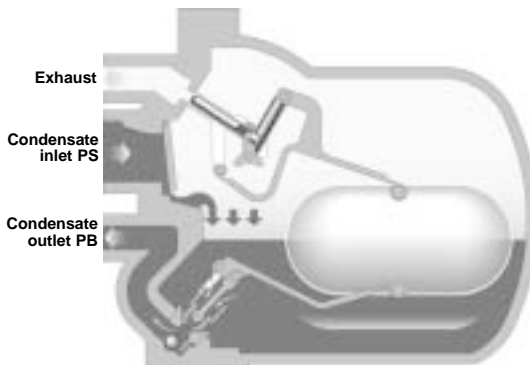

Fig. 4
Step 1 (Fig. 4)
The APT14 automatic pump trap operates on a positive displacement principle. Condensate enters the body through the inlet swing check valve causing the float to rise. The float is connected to the trap mechanism via a multi-link pivot. If the upstream system pressure PS is sufficient to overcome the back pressure PB (Fig. 4), the build up of condensate will be discharged through the opening two stage trap mechanism.